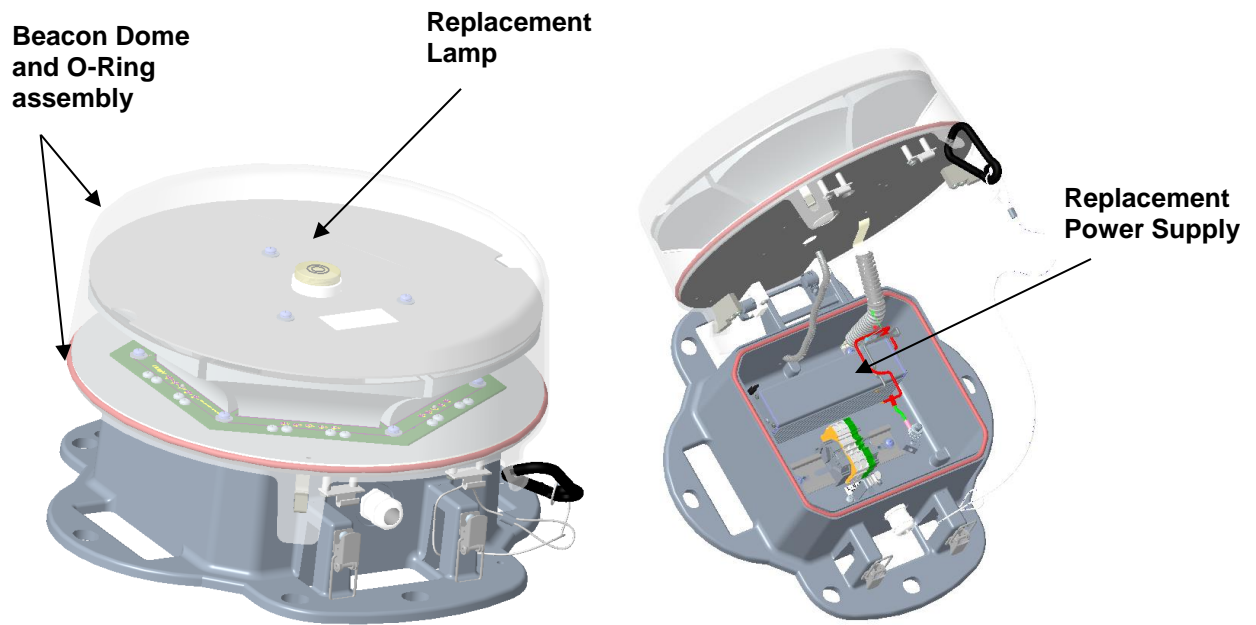

Figure 4 - Replacement Parts
- Figure 4: Beacon - Replacement Parts
The block diagram in Figure 4 shows the major components of a typical Beacon installation. The parts of the system are the LED Beacon and Controller. The LED Beacon is made up of one LED module, which lights when current passes through it. The LED Beacon contains its own internal power supply. The Beacon is designed for use with an external controller. This external controller provides the properly timed flashing signal, fault monitoring and alarm interfaces.